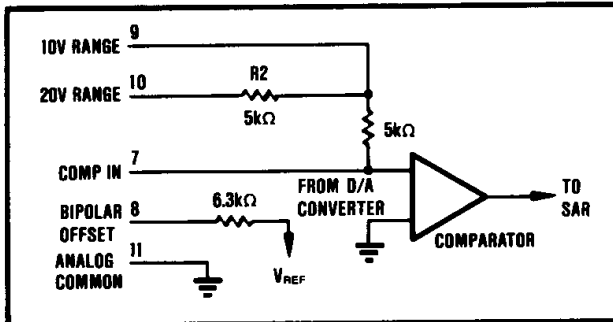
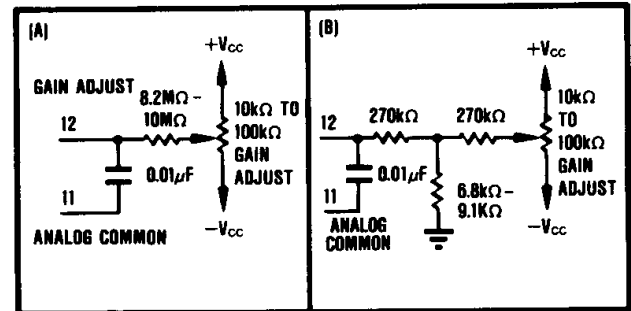

FIGURE 3. ADC804 Input Scaling Circuit.
FIGURE 6. Two Methods of Connecting Optional Gain Adjust.
input range as indicated by Table II. The input circuit architecture is illustrated in Figure 3. Use of external padding resistors to modify the factory-set input ranges (such as addition of a small external input resistor to change the 10V range to a 10.24V range) will require matching of the external fixed resistor values to individual devices, due to the large tolerance of the internal input resistors. Alternatively, the gain range of the converter may be easily increased a small amount by use of a low temperature coefficient potentiometer in series with the analog input signal or by decreasing the value of the gain adjust series resistor in Figure 6.
**GAIN**—Connect the gain adjust potentiometer as shown in Figure 6. Set the input voltage to the nominal plus full-scale value minus  $3/2$ LSB. Once again referring to Table I, this value is  $+10V - 7.32mV$  or  $+9.99268V$  for the  $-10V$  to  $+10V$  range. Adjust the gain potentiometer until the output code is alternating between  $000_H$  and  $001_H$  with an approximate 50% duty cycle. As in the case of offset adjustment, this procedure sets the converter end-point transition to a precisely known value.